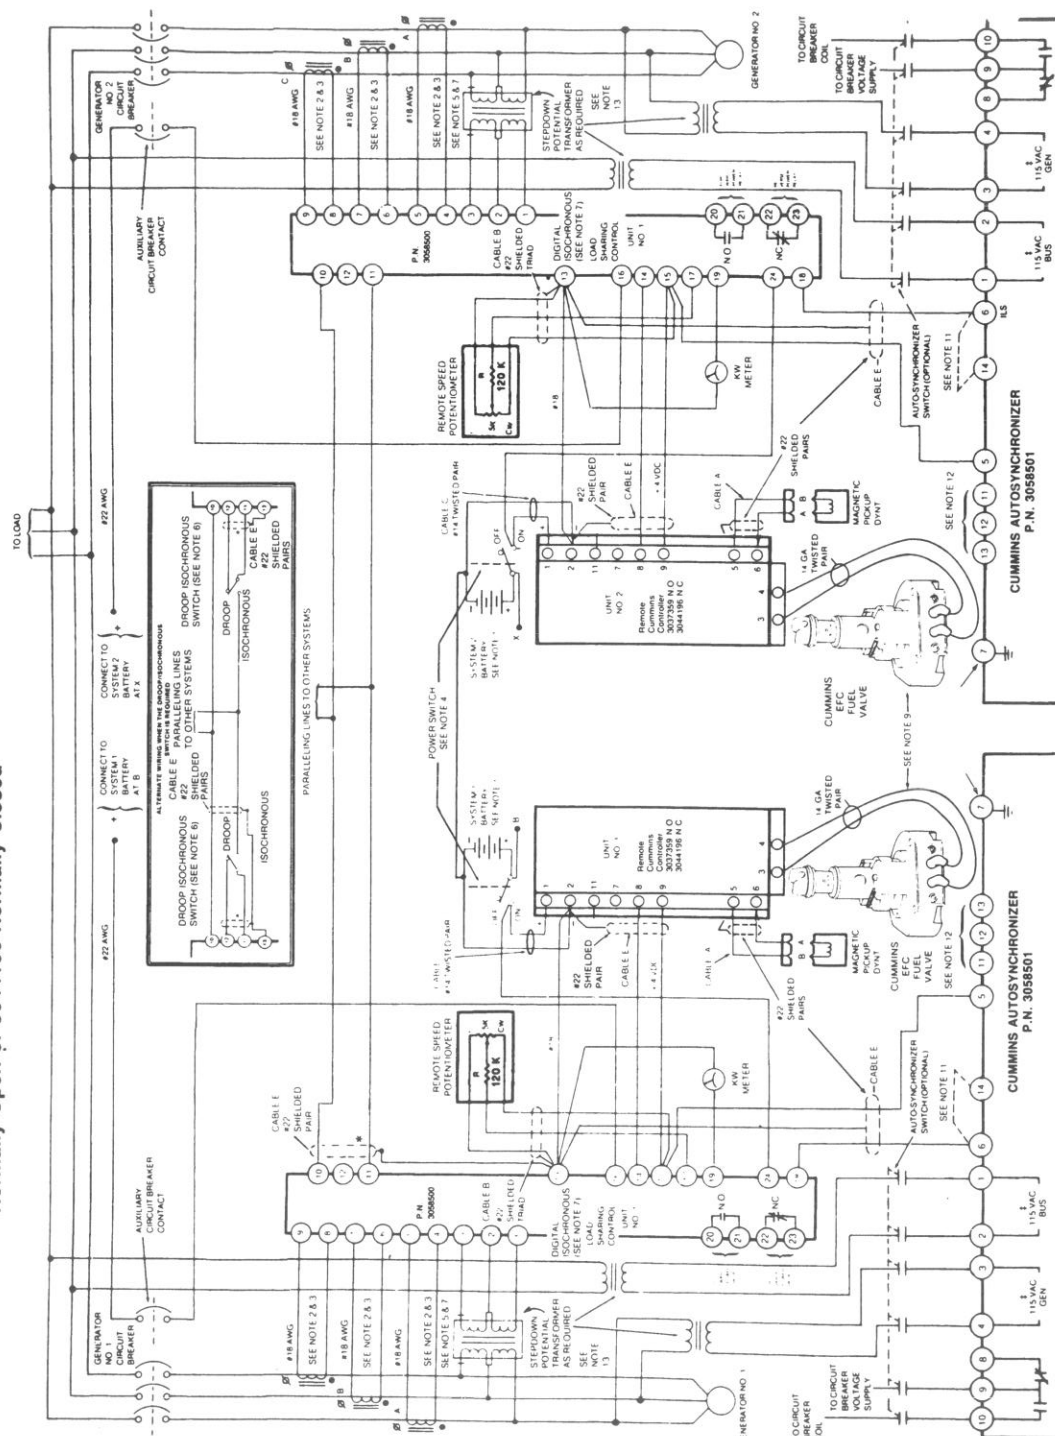

Figure 2.
Figure 2 illustrates the wiring of two engine generator sets having Cummins governors, and Cummins Digital Isochronous Load Sharing Control and Cummins Auto-Synchronizers. Additional engine generator sets can be paralleled by wiring them at the point designated, PARALLELING LINES TO OTHER SYSTEMS.
- b. Connect DC voltmeter to TP1 and TP2 test jacks. See Figure 2 in the Installation Section. The red jack is plus and the black jack is minus. The positive lead of the voltmeter goes into the red jack.